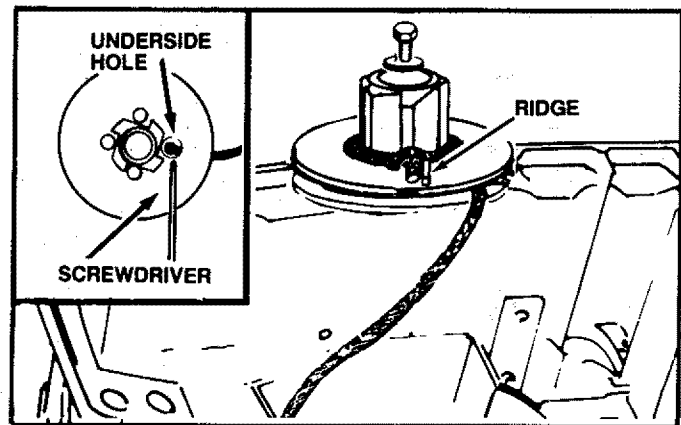

Figure 11
9. Guide rope inside the pulley, then through topside pulley hole by pushing the rope from the underside hole with a small round object such as a Phillips screwdriver. See Inset, Figure 11.
10. Wrap rope counterclockwise ← around pulley ratchet and tuck loose end back under rope leaving a 1/4 to 3/8 inch tail next to the ridge. Figure 11. Pull tightly.